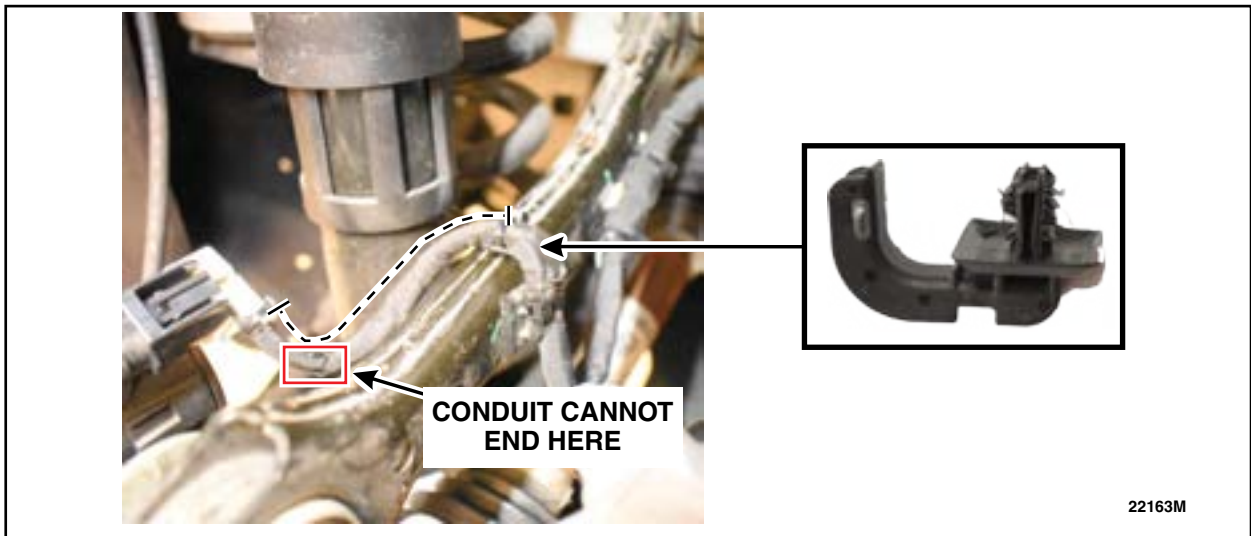

FIGURE 12
15. Reinstall the wiring guide with 2 tie straps, 105mm (4.1in) from the back of the connector. See Figure 12.